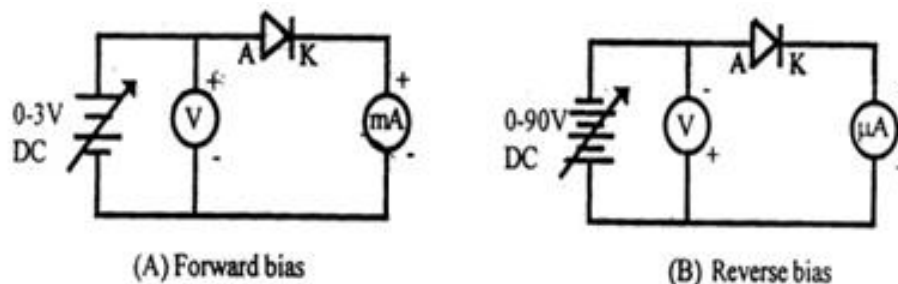

Figure 2.1: Biasing of PN junction diode
When positive terminal of battery is connected to p-type semiconductor & negative terminal of battery is connected to n-type semiconductor of P-N junction, the junction is said to be forward biased (figure 2.1 (A)).
When positive terminal of battery is connected to n-type semiconductor & negative terminal of battery is connected to p-type semiconductor of P-N junction, the junction is said to be reverse biased (figure 2.1 (B)).
2. Make the connections as shown in Figure 2.1(A) by selecting Silicon diode.
5. Connect positive terminal of supply voltage (variable DC, 0-3V) to Anode (A) terminal of the selected semiconductor diode.
6. Now connect negative terminal of supply voltage to Cathode (K) terminal of the selected semiconductor diode.
8. Connect the ammeter in series with the diode by connecting Cathode (K) terminal of the diode with positive terminal of the ammeter and negative terminal of the ammeter with the negative terminal of the voltage source.
1. Make the connections as shown in Figure 2.1(B) by selecting either Silicon diode or Germanium diode.
4. Connect positive terminal of supply voltage (variable DC, 0-90V) to Cathode (K) terminal
- Now connect negative terminal of supply voltage to Anode (A) terminal of the selected semiconductor diode.
- Connect the ammeter in series with the diode by connecting Cathode (K) terminal of the diode with positive terminal of the ammeter and negative terminal of the ammeter with the negative terminal of the voltage source.